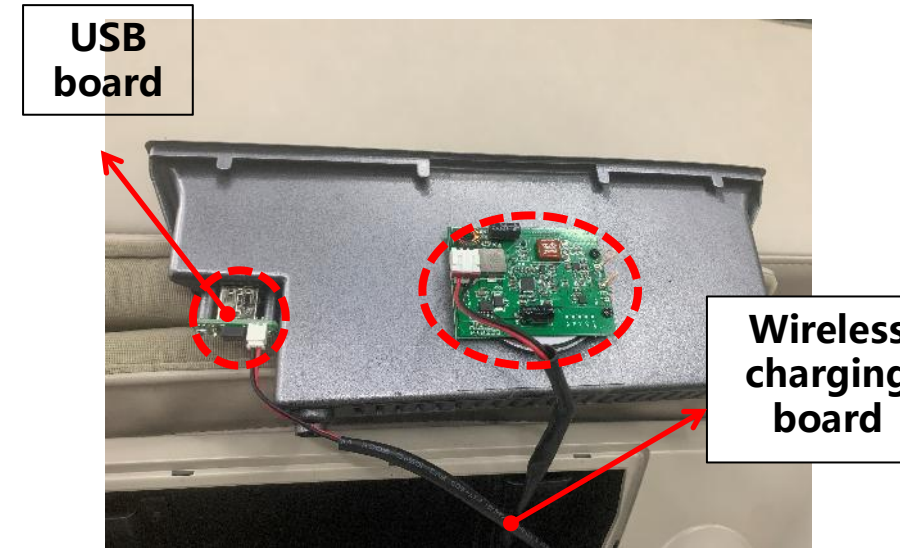

Figure 3
3. Remove the manual slot to remove the wireless charging board and USB board (Figure 3)